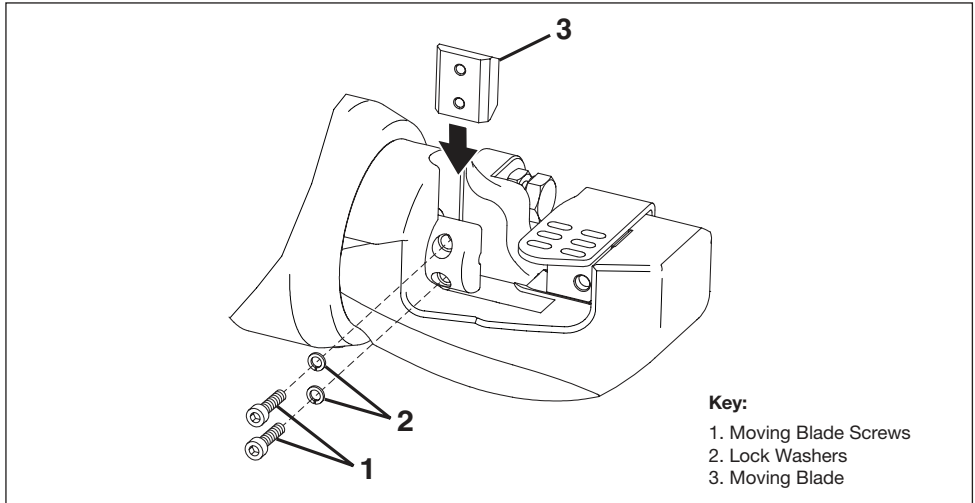

Figure 10, Moving Blade Replacement
Replace the moving blade as described in the following steps. Refer to Figure 10, items 1, 2 and 3.